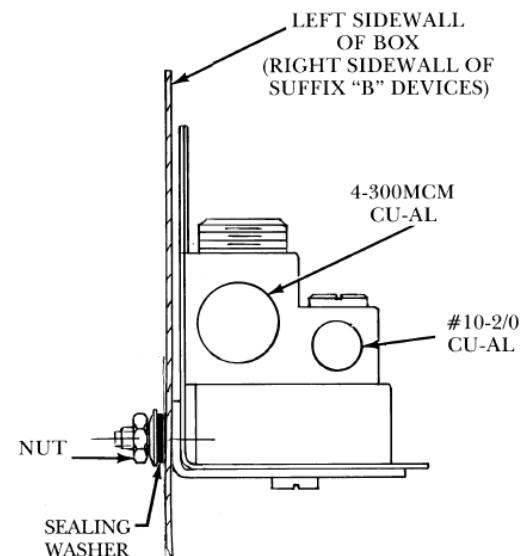

Figure 2 – Typical Installation of TNI64C Neutral Kit
Step 2: Mount neutral block to enclosure as shown in Figure 2. Torque fasteners to 20-24 in-lbs.